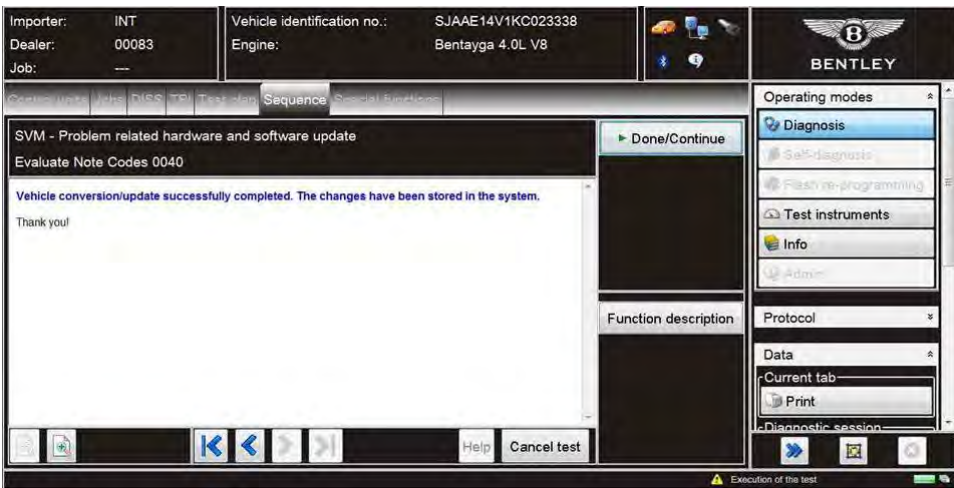

Figure 4
4. Continue to follow all on screen prompts until the message 'Vehicle conversion/update successfully completed' appears (Figure 4). Select Done/Continue, the test will then be ended.